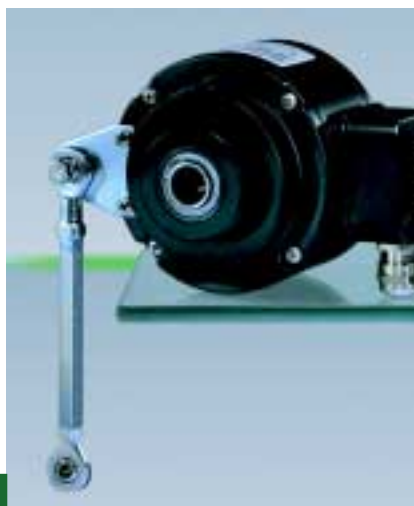

Figure 29: The torque arm should be fitted as perpendicular as possible (HOG 10).
- HÜBNER torque arms with ball joints are to be fitted without placing them under any stress and as **tangential** ($90^\circ \pm 30^\circ$) to the Digital-Tacho as possible (↻ Figure 29).